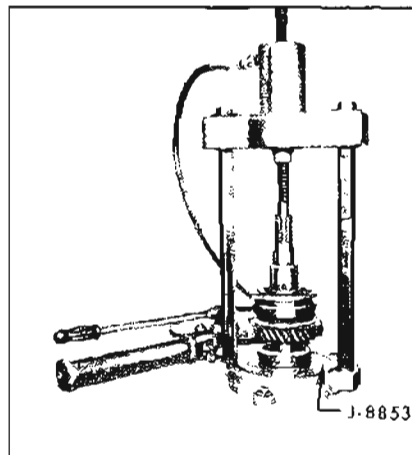

Figure 4-57—Installing Rear Bearing
4. Using J-8853, press on the rear bearing with the snap ring groove toward the front of the transmission (see Figure 4-57). Firmly seat bearing against the shoulder on the mainshaft.